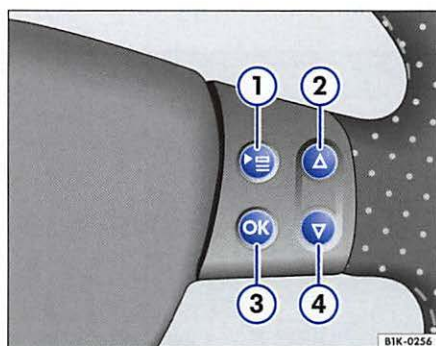

Fig. 16 Multifunction steering wheel: right side
- Press the ⇒ fig. 16 ① button on the multifunction steering wheel until the **Compass** menu is displayed.